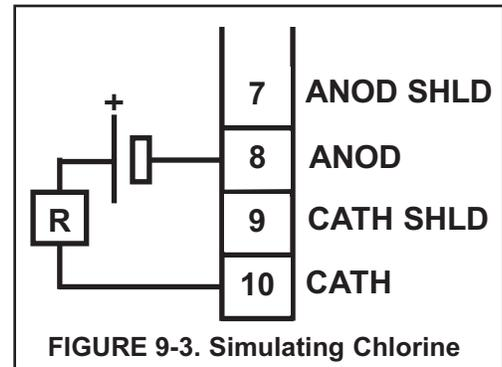

FIGURE 9-3. Simulating Chlorine
1. Disconnect the anode and cathode leads from terminals 1 and 2 on TB3 and connect a decade box and 1.5V battery as shown in Figure 9-3. It is not necessary to disconnect the RTD leads.